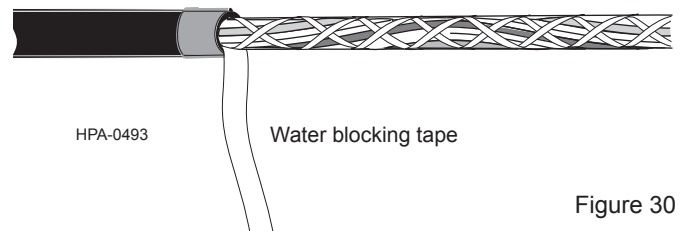

Figure 30
5.11 Separate the water blocking tape from the cable core to expose the buffer tubes (Figure 30). Use scissors to cut the water blocking tape flush with the ends of the cable sheath.